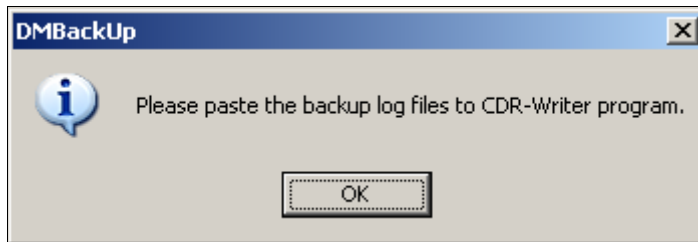
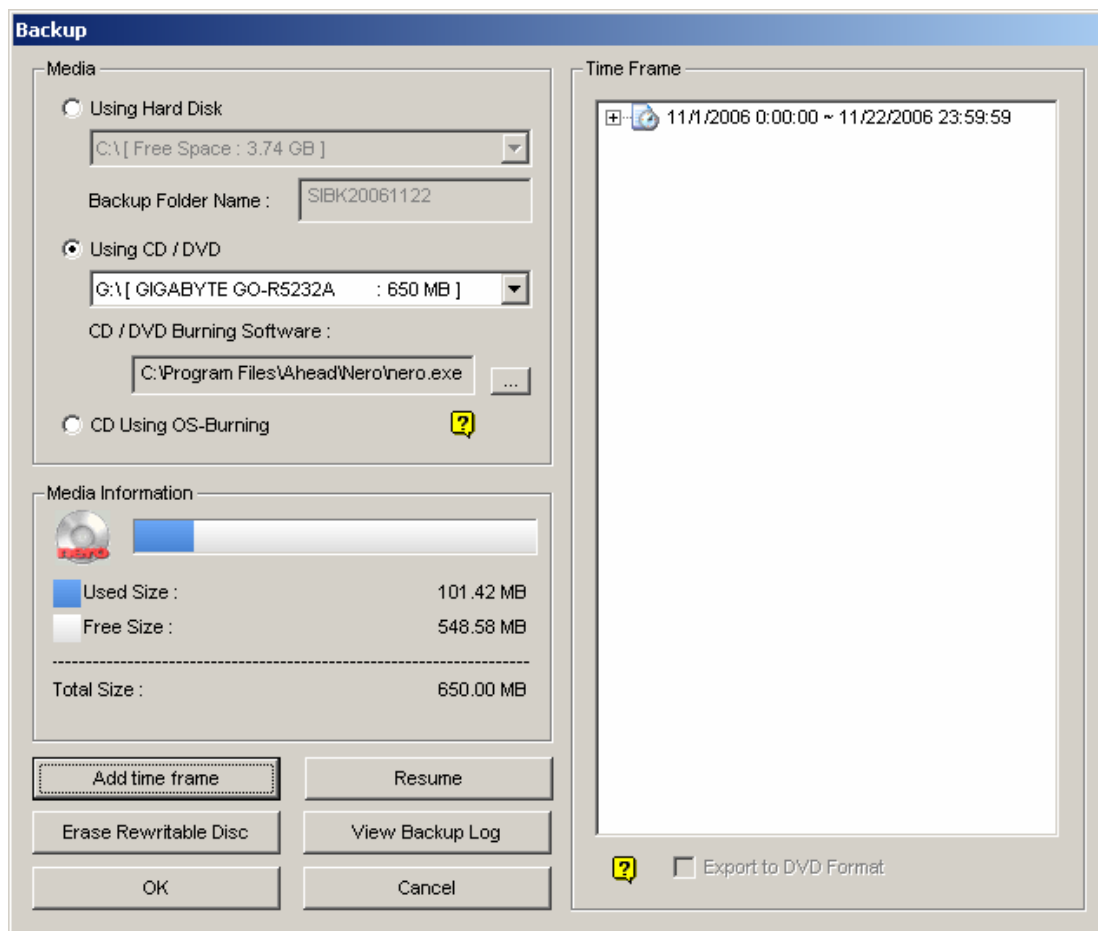

Figure 5-4
Figure 5-8
4. Click **OK**. The Backup dialog box (Figure 5-8) appears.
- Click the [...] button to assign the desired burning software (.exe file). When you click **OK** on the Backup dialog box (Figure 5-8), the system will ask you to paste the backup files to the CDR-Writer program (Figure 5-4), and call up the assigned burning software for you to paste and backup files.
2. The **Export to DVD Format** option, at the right bottom of Backup dialog box (Figure 5-8), outputs your files in DVD movie format, meaning that it will play in any DVD player that supports writable DVD disks. To enable this option, files recorded by the GV-Hybrid DVD card need to be selected first (see the Select Camera(s) option), and a DVD±RW disk is required as well.